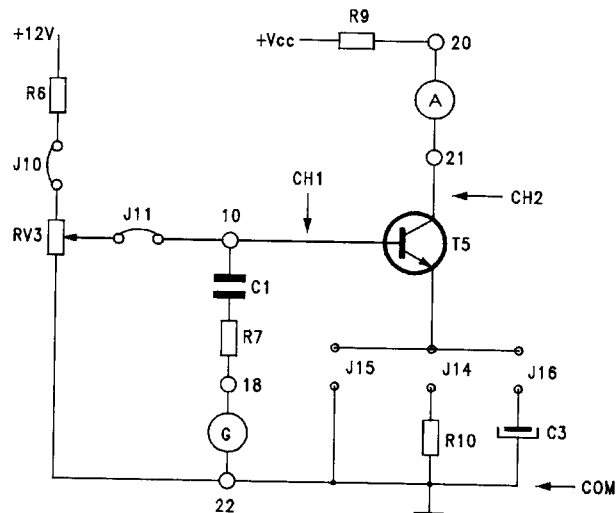

fig.B19.6
- Connect jumpers J11, J15, J10 and the ammeter to produce the circuit shown in figure B19.6